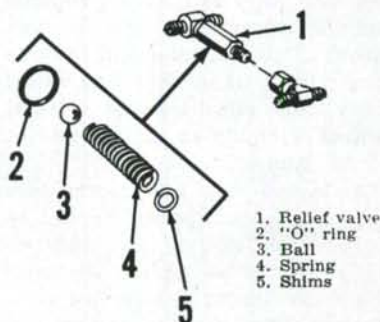

Fig. 7—Exploded view of the relief valve assembly. Refer to B—Fig. 10 for location.
Close the valve on tester completely and check pressure gage. If relief pressure is not 1100-1200 PSI, disassemble relief valve (Fig. 7) and add or deduct shims (5) to set pressure.